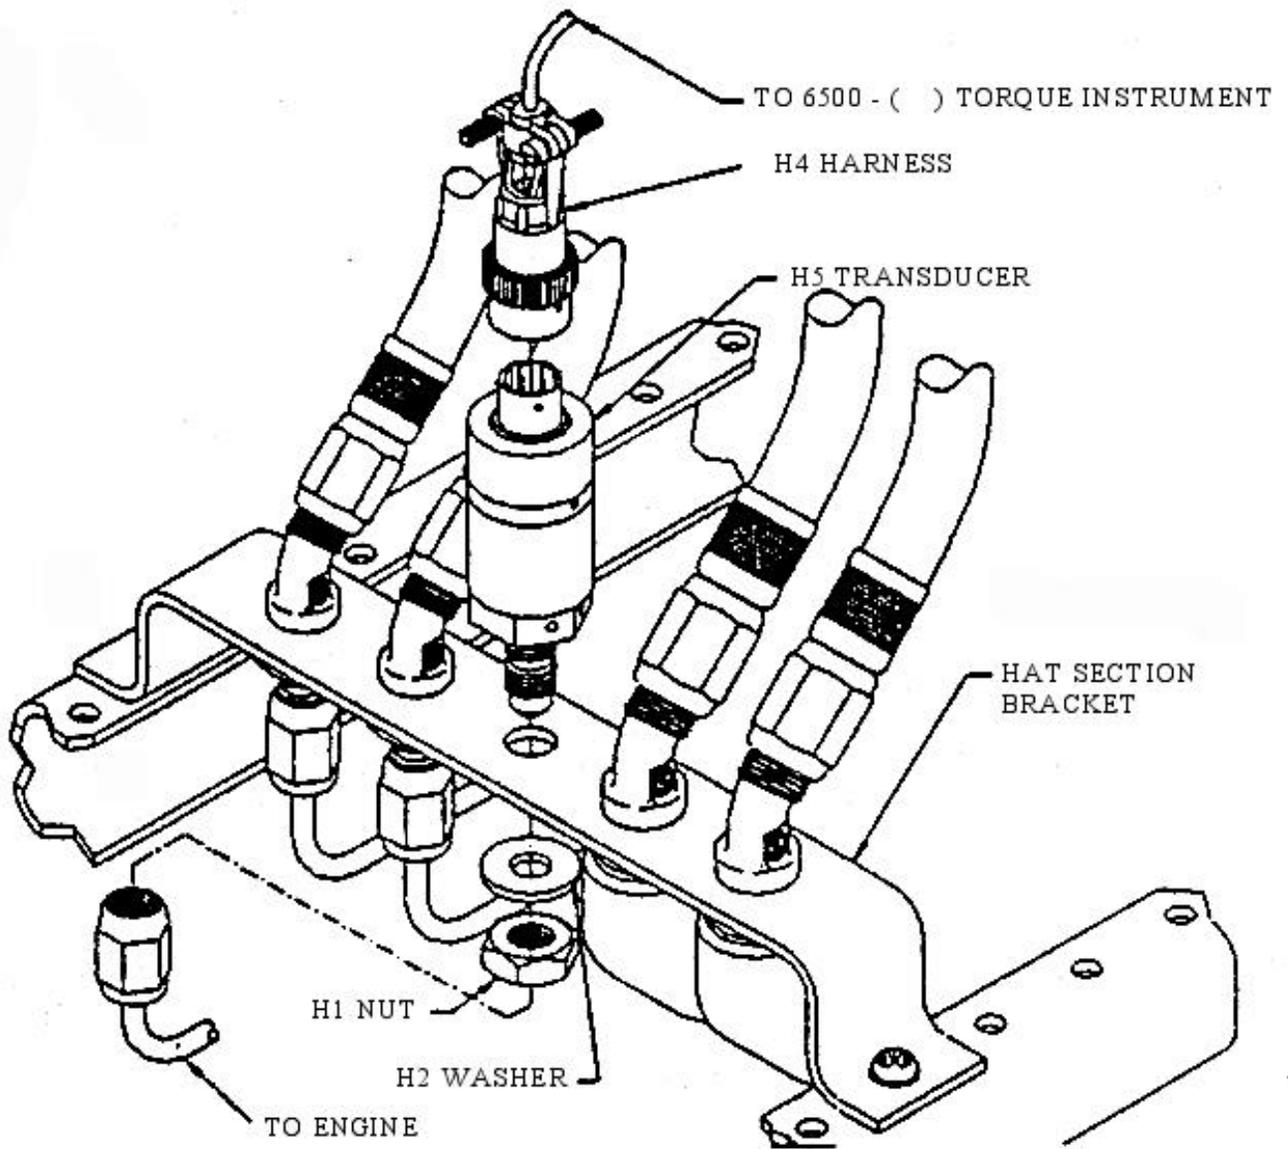

Figure 77-3. Torque Pressure Transducer
2. Insert the pressure fitting end of the transducer downward into the hat section bracket. Install the washer and mounting nut and tighten the nut. (Figure 77-3).